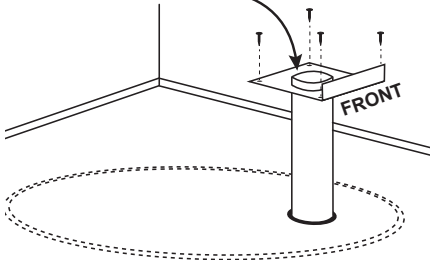

Figure 19: Air Intake Duct Sizing Installation
- 5** Insert the duct assembly as shown in Figure 19 with lip facing forward, and using only nails, secure the duct assembly to the floor.